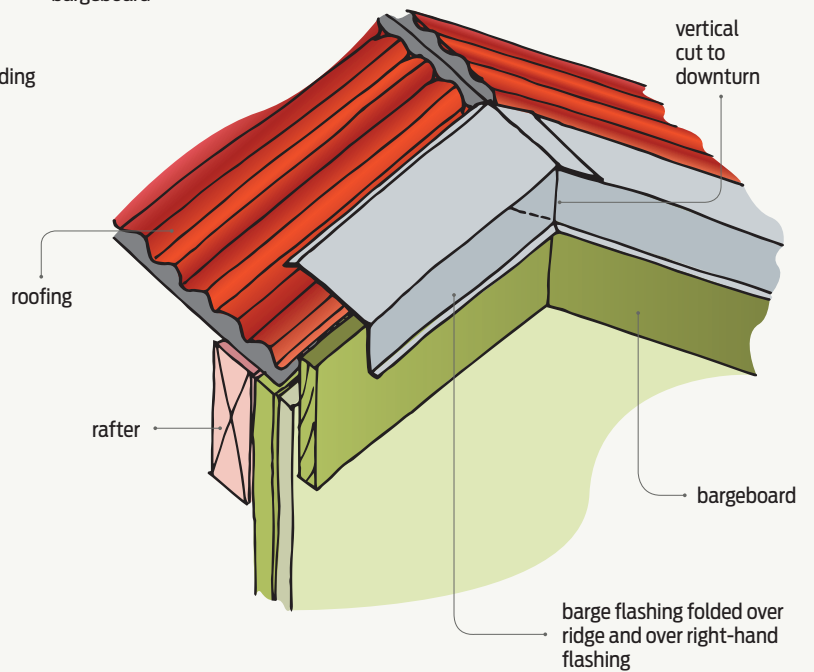

**Figure 1**
- the intersections of the barge flashing and the ridge flashing to the gable end of a roof (see Figures 1–4)